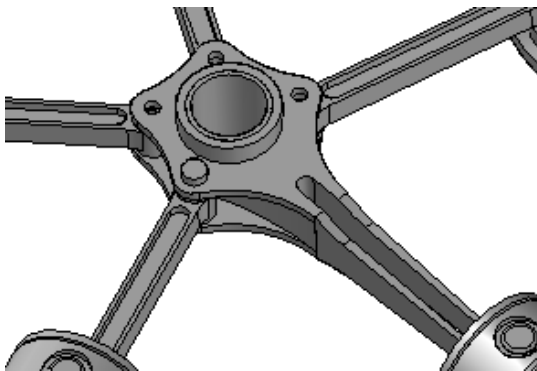

Figure 12-45 First instance of the Link Pin assembled with the main assembly
1. Place the Link Pin in the current assembly and assemble it with the main assembly by using the assembly relationships. Figure 12-45 shows the first instance of the Link Pin assembled with the main assembly.